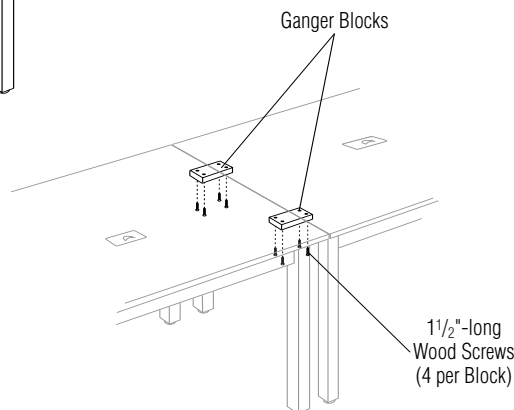

Figure 9
11. For ganged and/or electrically interconnected tables, attach two wood ganger blocks with 1 1/2"-long wood screws to the underside of the table top on each end (Figure 9).
Note: Round 4-leg tables cannot be ganged or electrically interconnected (Figure 9).